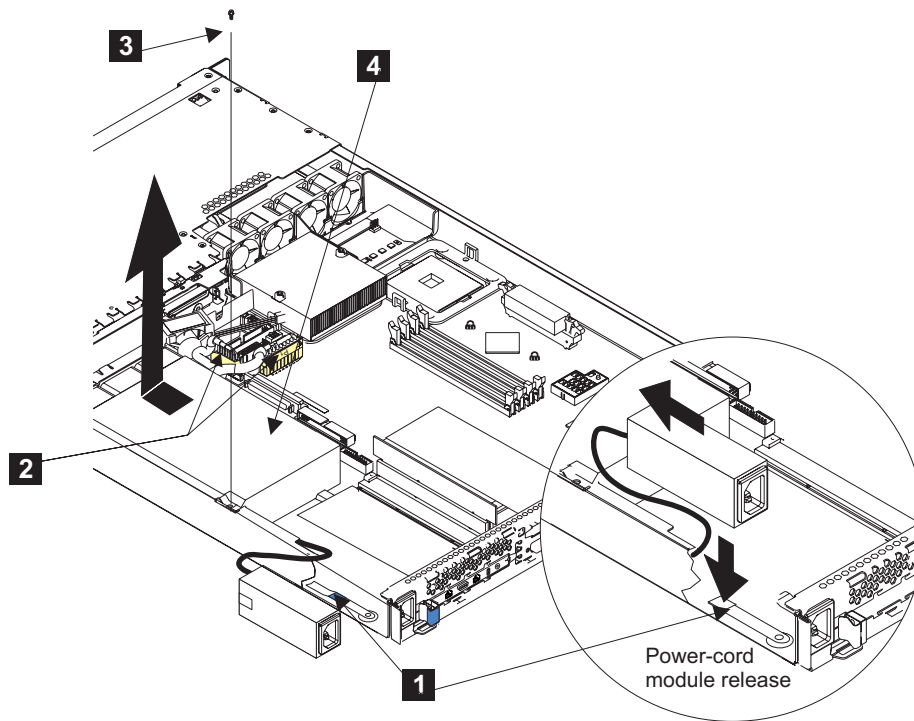

Figure 106. Replacing the SAN Volume Controller 2145-4F2 power supply
1. Slide the power supply **4** into the SAN Volume Controller 2145-4F2. See Figure 106.